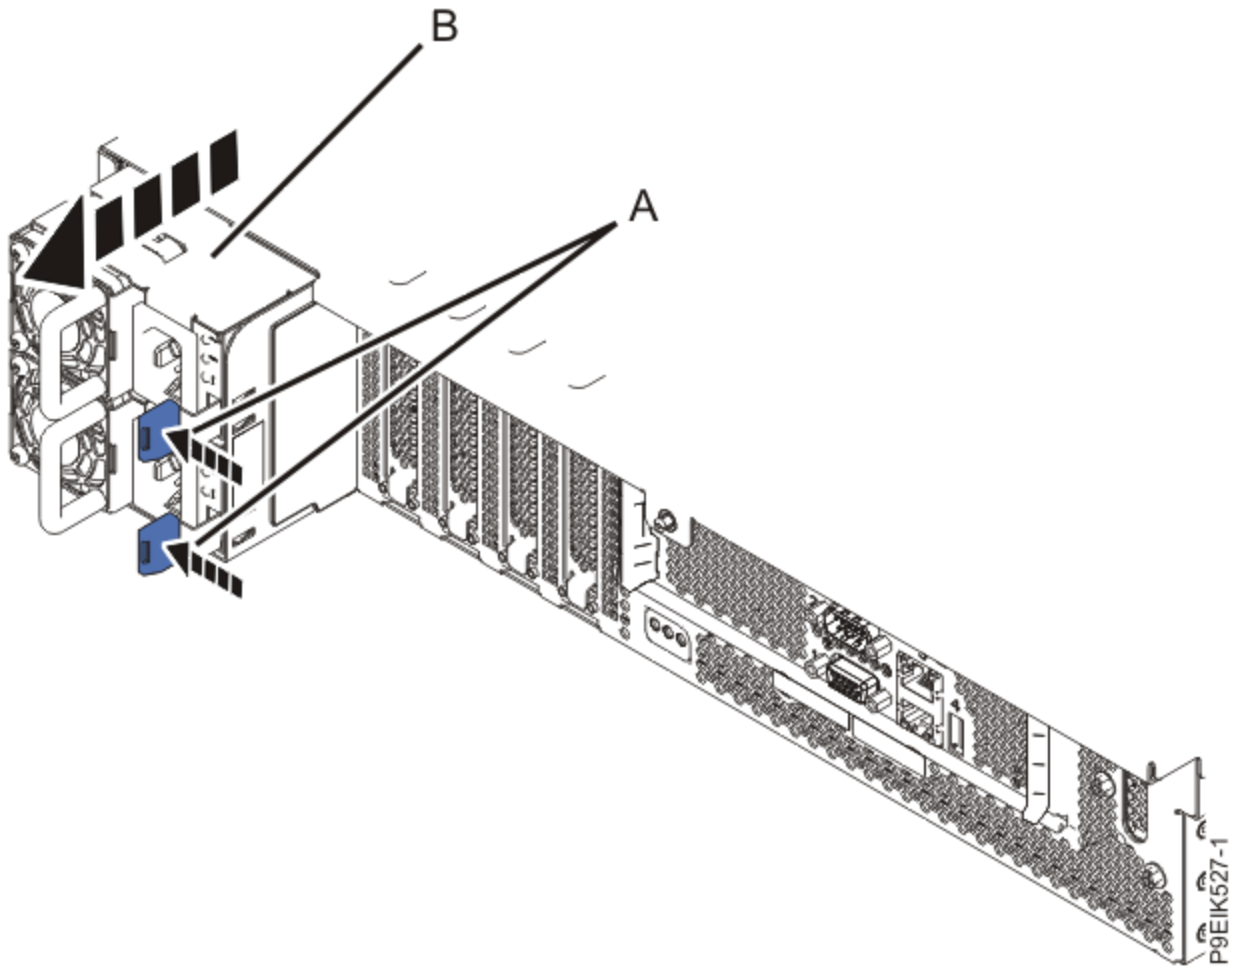

Figure 33. Removing the power supplies from the system
3. Remove the power supplies from the system as shown in Figure 33 on page 48.